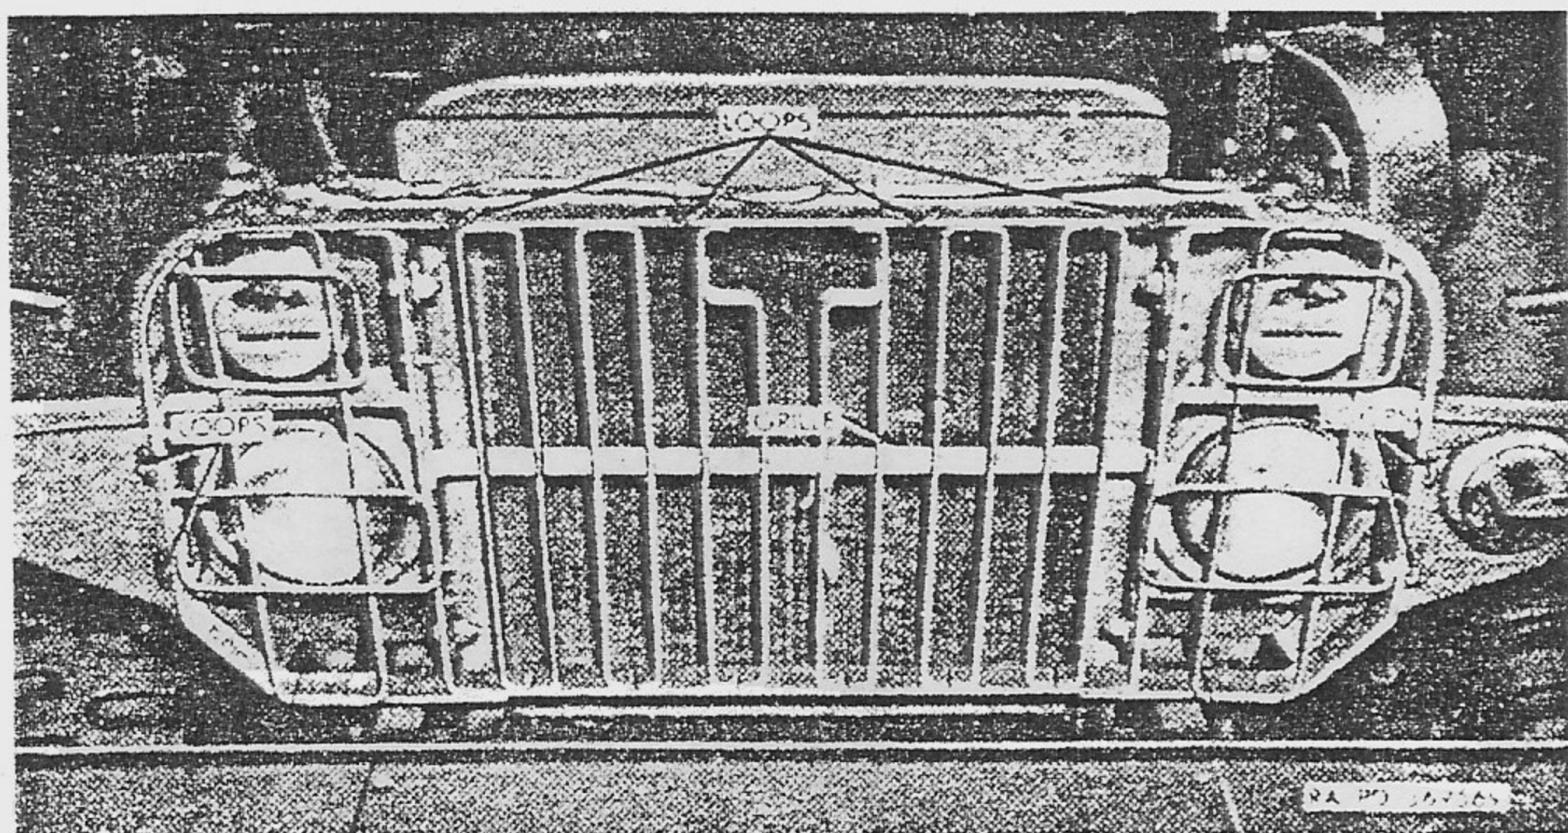

Figure 15. Installation of winterfront cover loops.
b. Drill the 16 holes with a No. 17 drill and install the eight loops (fig. 15) with two self-tapping screws 141592 for each loop. These 16 screws are packaged as a part of the winterfront cover assembly.